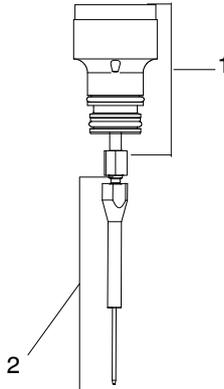

Figure 11: Piston/Cartridge Assembly and Needle Assembly
- a. See Figure 11. Using two $\frac{5}{16}$ in. open wrenches, loosen the needle from the cartridge rod.
AG900+S Module: See Figure 11. Install the new needle assembly onto the piston/cartridge assembly. Turn until the needle bottoms out against the end of the piston shaft.